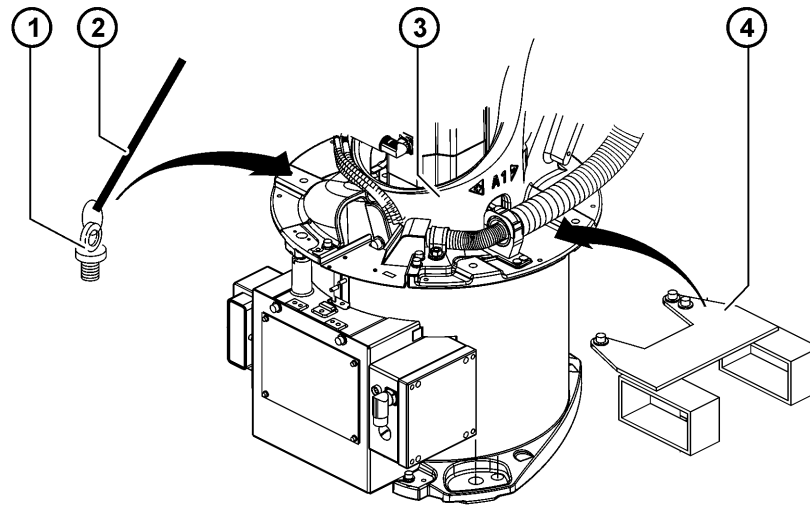

Fig. 8-3: Transporting the robot during installation
- The eyebolts and lifting tackle or the fork slots are attached to the robot (>>> Fig. 8-3).